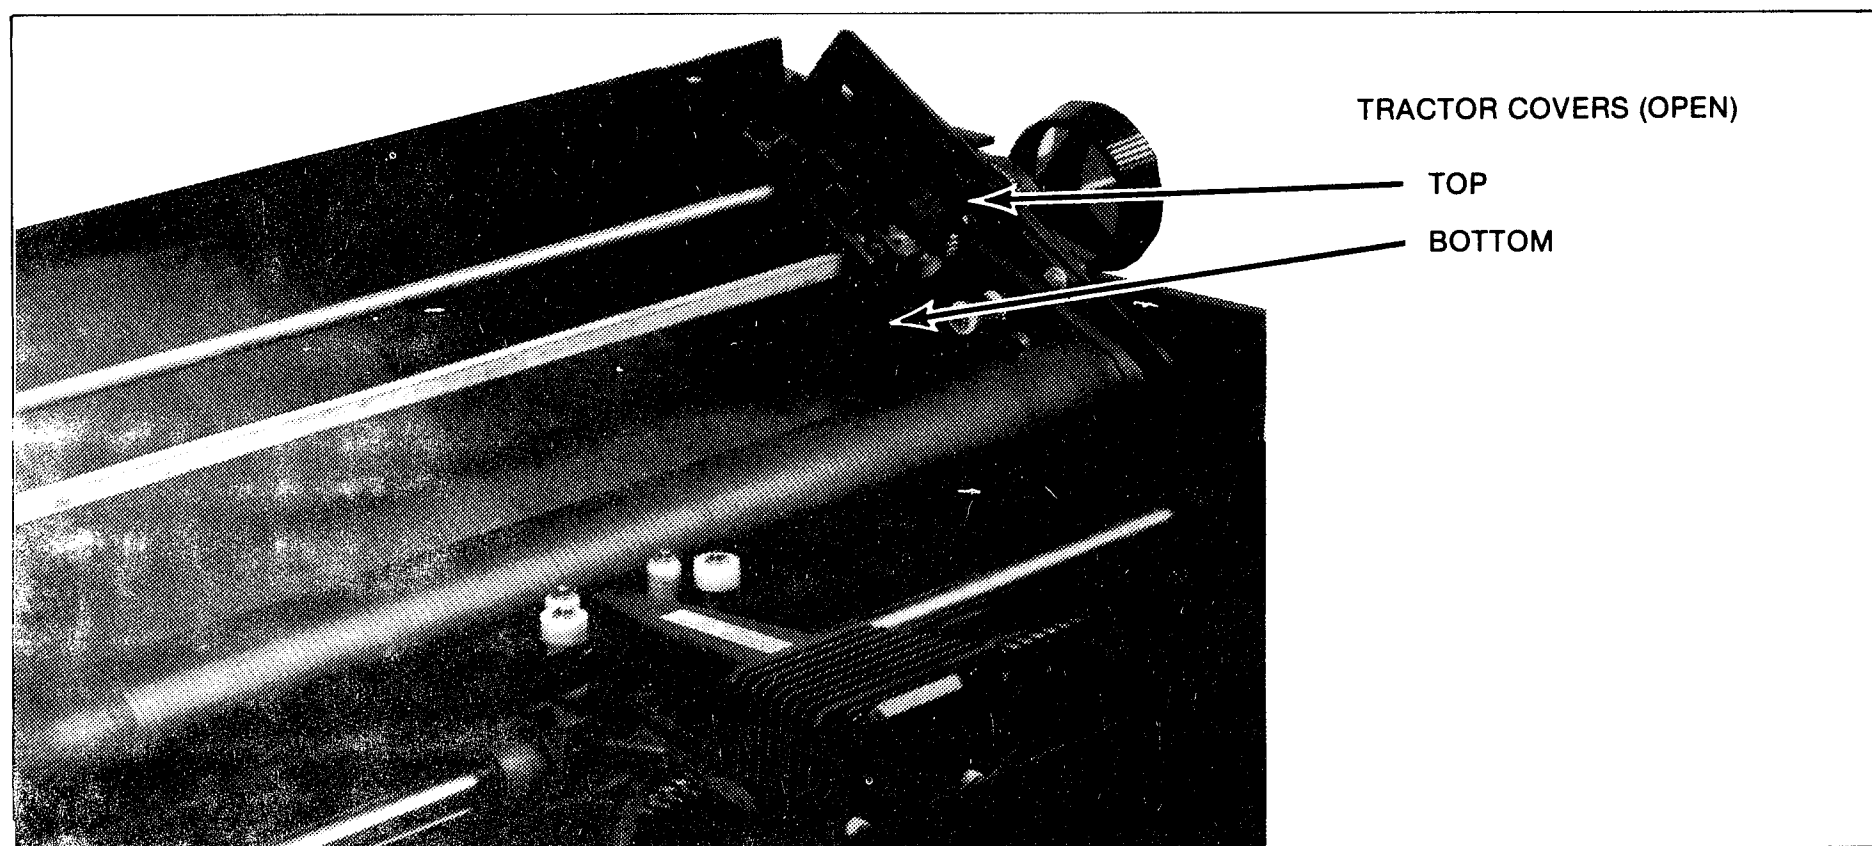

Figure 3. Tractor Covers
- Open four tractor covers that hold paper in position—two on each side, top and bottom (Figure 3).